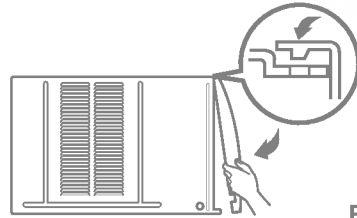

Fig. 1
- Attach the front grille to the cabinet by inserting the tabs on the grille into the tabs on the front of the cabinet. Push the grille in until it snaps into place. (See Fig.1)